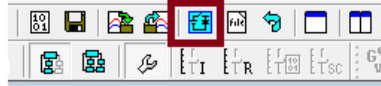
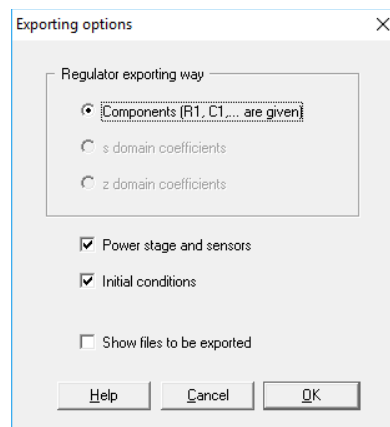

Figure 31: SmartCtrl exporting to Psim button
Figure 32: SmartCtrl exporting to Psim options
1. Click in SmartCtrl exporting to Psim button. See Figure 31. And configure the exportation as shown in Figure 32.